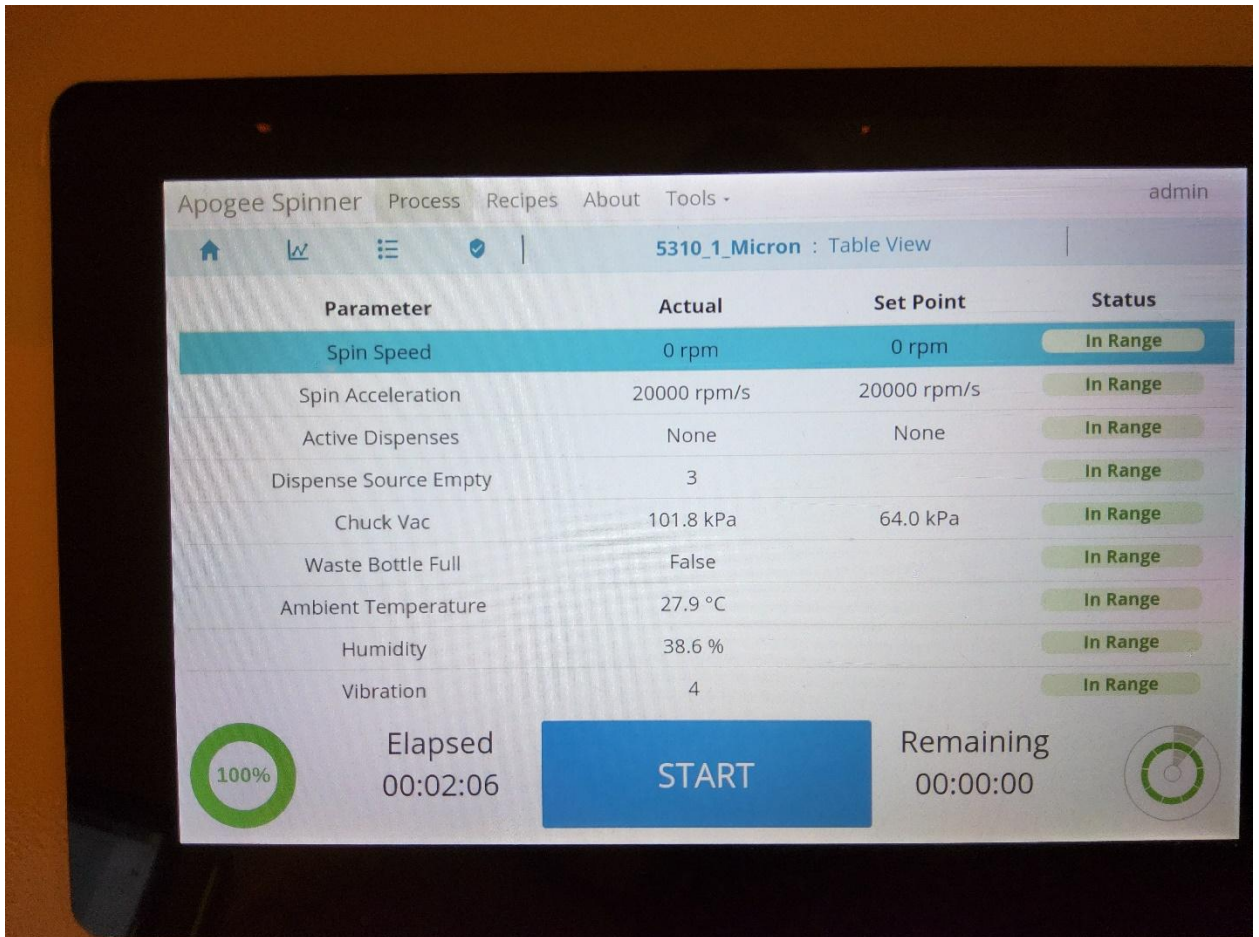

Figure 4
1. The Home screen of the Bake Module is shown in Figure 4. The operation of the software is identical to the spin module.